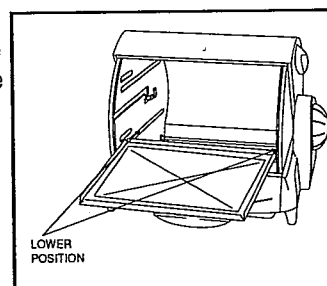

Figure 9
2. The Baking Sheet can be used in the **lower position only**. See Figure 9. Slide Baking Sheet into Rotisserie Oven at lower level as shown.